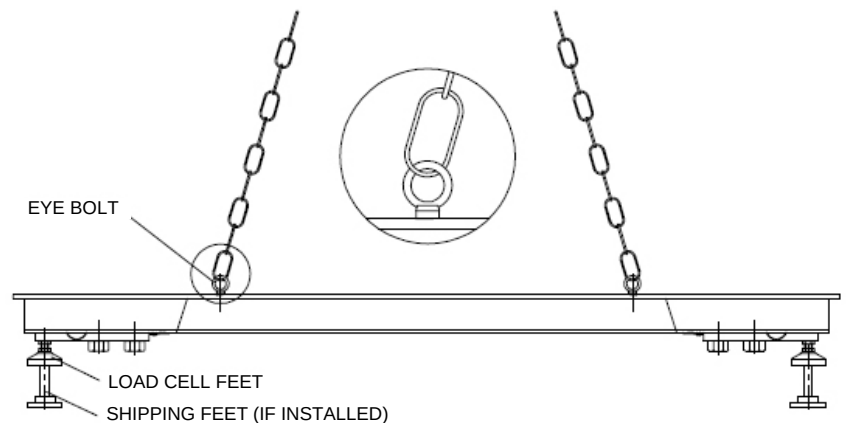

Figure 1. Hoisting Method.
2. Install the two included eye bolts into holes in top of platform. (See Figure 1.)